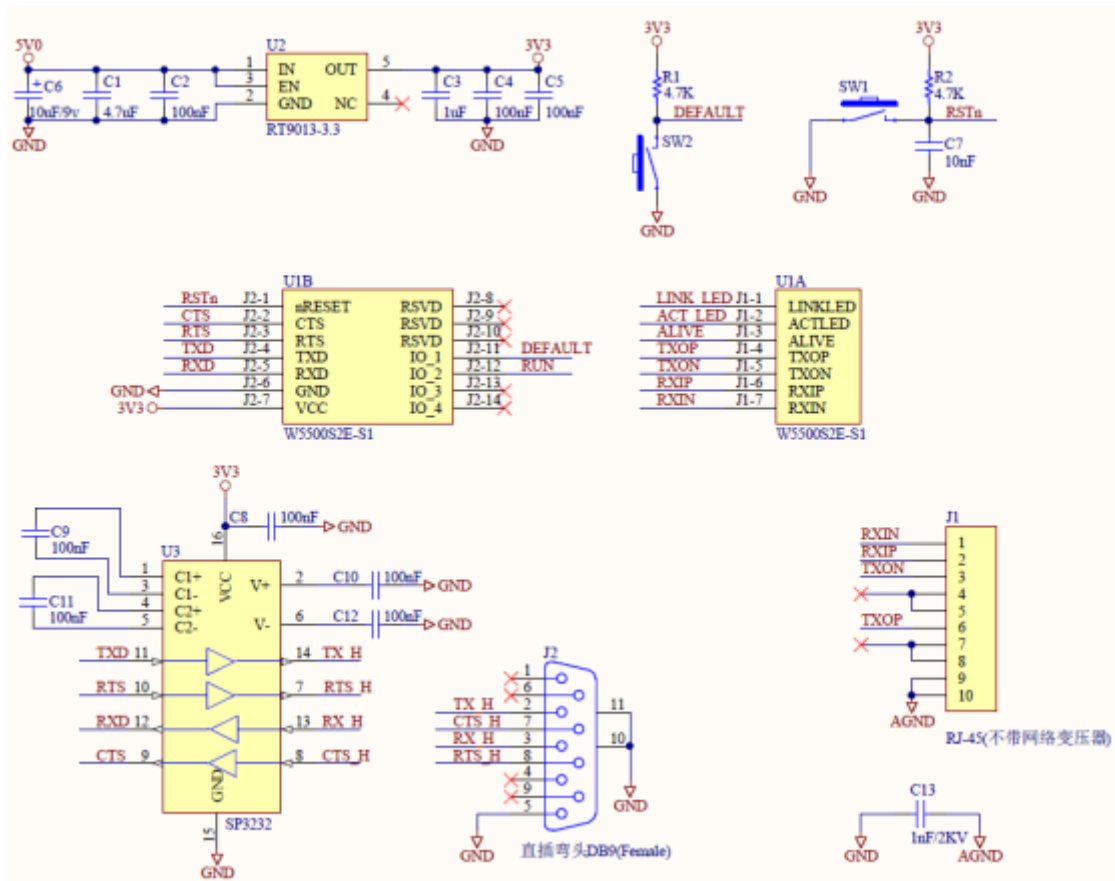

Figure 2-4 W5500S2E-S1 evaluation board reference schematic
- ◆ Figure 2-4 shows the reference schematic of the evaluation board. User could base on their own application to develop their own design by this reference schematic.